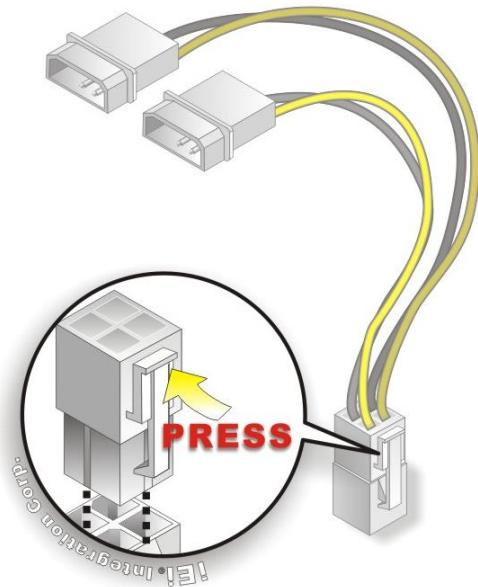

Figure 4-6: Power Cable to Motherboard Connection
Step 2: Connect the power cable to the motherboard. Connect the 4-pin (2x2) Molex type power cable connector to the power connector on the motherboard. See **Figure 4-6**